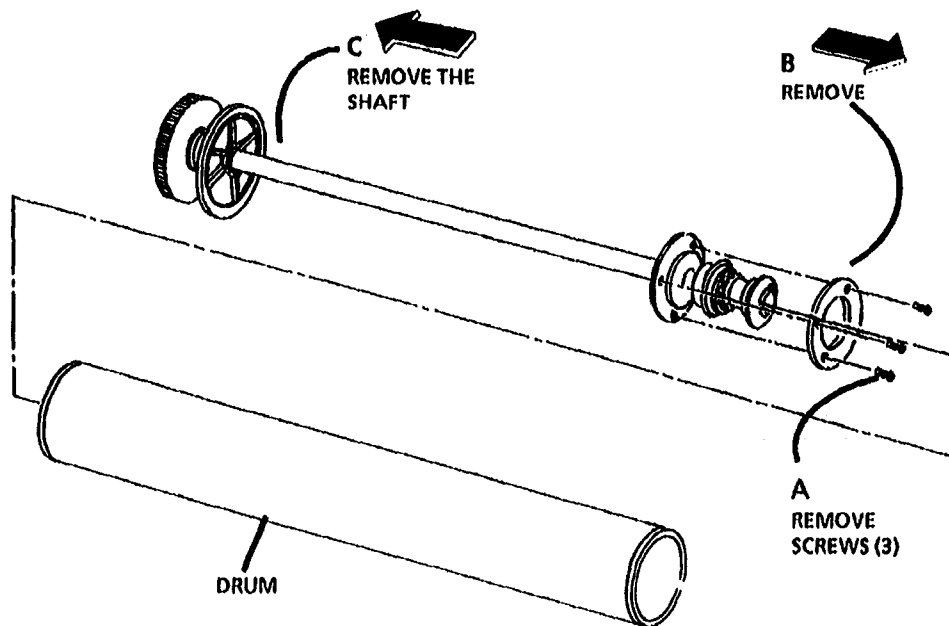

Figure 1. Remove the Photoreceptor Shaft Assembly
5. (Figure 1): Remove the Photoreceptor Drum.